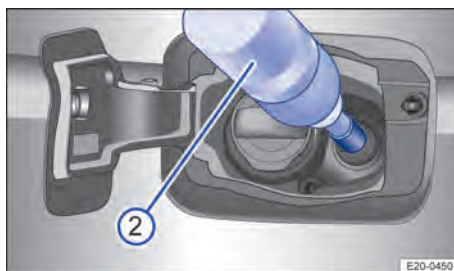

Fig. 165 Refilling AdBlue with a refill bottle.
2. Place the refill bottle on the AdBlue® filler neck and screw the refill bottle hand-tight → Fig. 165.
4. Press the refill bottle in the direction of the tank filler neck and hold the refill bottle in this position → Fig. 165 ②.
6. The AdBlue® tank is full as soon as no more AdBlue® flows out of the refill bottle → ①.